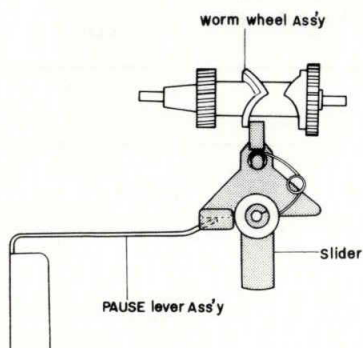

Fig. 9
- 2) If space occurs between pause spring and slider due to strong pause spring contact with the slider, bend the pause spring so that the slider becomes lightly contacted. (Refer to Fig. 9)